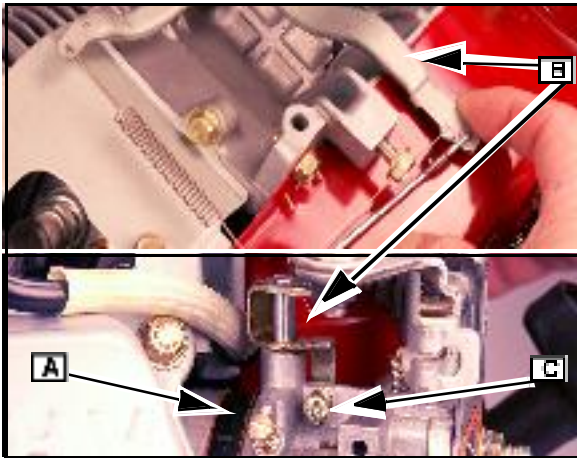

Fig. 12
1. Turn the idle mixture screw (**A** Fig. 12) in until you feel it *just* make contact with the seat.